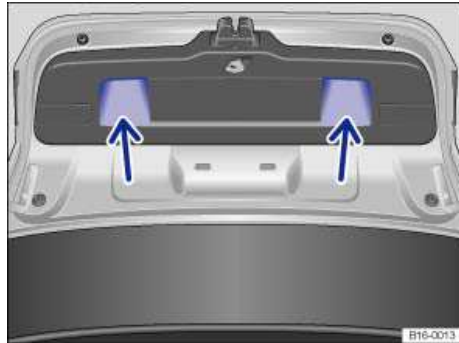

Fig. 48 Opened luggage compartment lid: Recessed grips for closing.
- Grasp one of the recessed grips in the trim of the luggage compartment lid ⇒ fig. 48 (arrows).